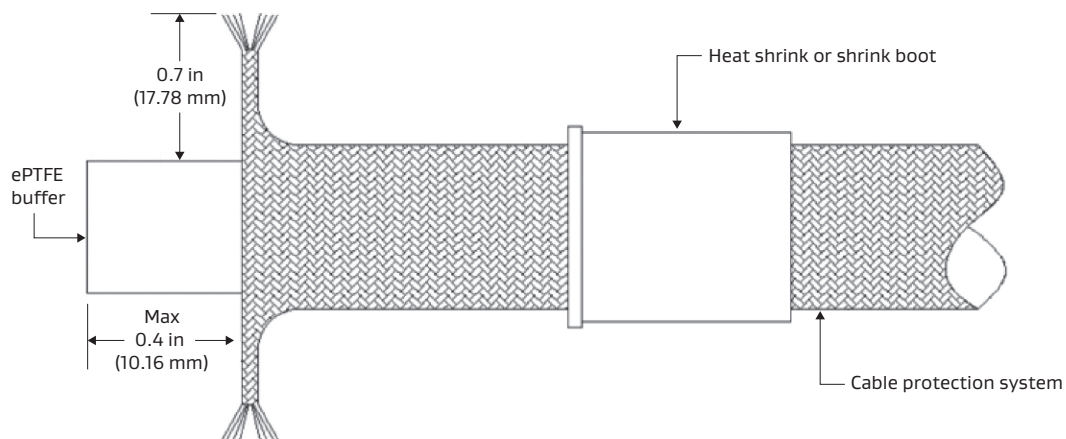

Figure 8: Peeling back the outer braided jacket
3. Peel back the outer braided jacket (first layer) at 0.7 inches (17.78 millimeters), exposing the white ePTFE buffer underneath (Figure 8). Using a razor or equivalent, carefully cut the end of the white ePTFE buffer and clear or black plastic tubing at a maximum of 0.4 in (10.16 mm).